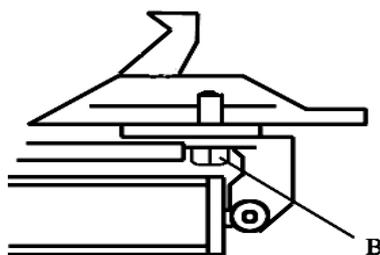

Fig 16
Note: After the first 20 days of use, retighten the jaws with tightening screws (B) on the Turntable (Fig 16)